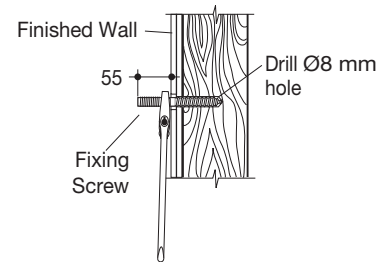

Fig 2
- 3- Insert expansion fasteners into the drilled holes in masonry wall. Screw Fixing/Anchor Screws into the wall using the flats located on the screws section of the stud and spanner as shown in **Fig 2**. Allow 55mm of thread to protrude from the finished wall.